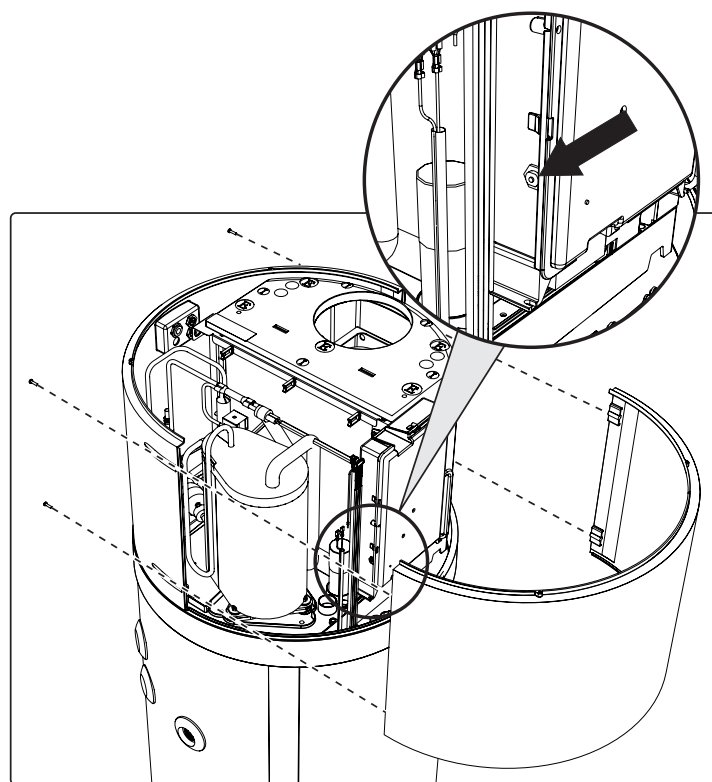

fig. 46- Front panel removal
- Remove the front panel and manually reset the tripped safety thermostat (fig. 46). In case of intervention, the central pin of the thermostat comes out by about 2 mm.